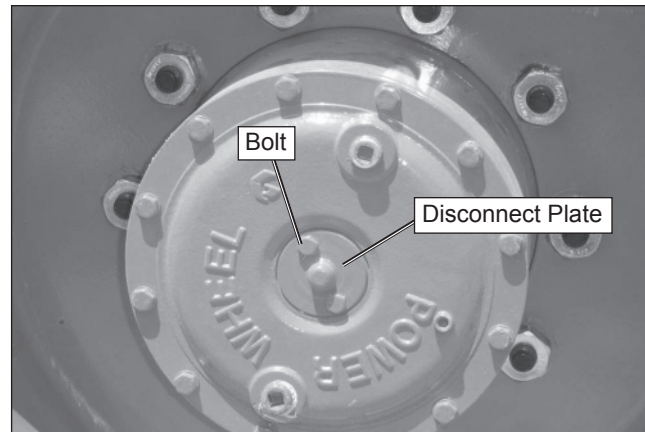

Figure 9.3 – Drive Wheel
7. At each drive wheel, remove the two bolts from the disconnect plate (refer to Figure 9.3). Turn the plate over so the nipple points inward. Reinstall the two bolts.
9. At each drive wheel, remove the two bolts and return the plate to its original position as shown in Figure 9.3.